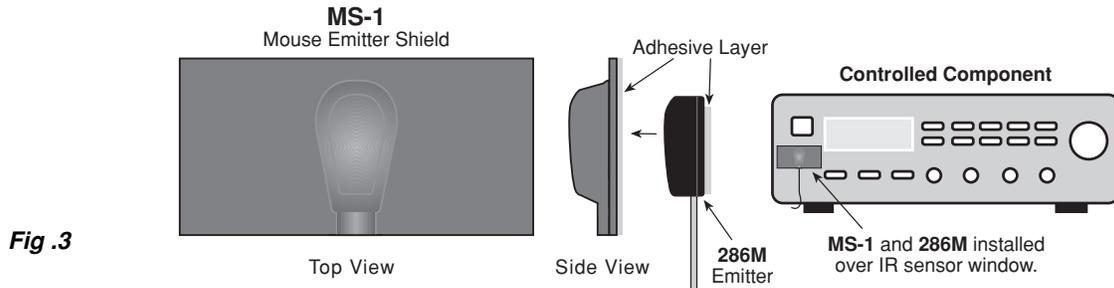

Fig. 3
- An **optional** shield, available from Xantech as model **MS-1**, fits over the 286M shells and the sensor window (**Fig. 3**) of the controlled component. It prevents unwanted external IR signals from passing through or leaking past it.